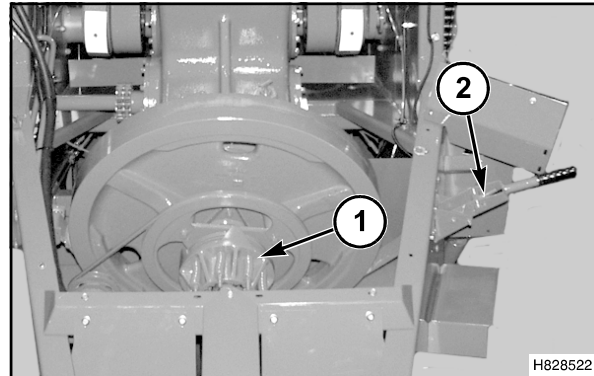

FIG. 1
FIG. 1: When the flywheel brake is applied, the flywheel must stop within several seconds. When the flywheel is properly adjusted and power is applied through the PTO, the main drive clutch (1) must slip without the flywheel rotating.